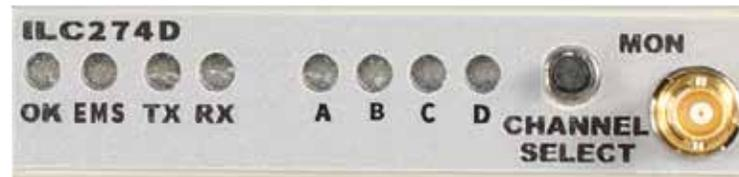

Figure 11. ILC274D Status LEDs and Monitor Connector
This section describes how to monitor the ILC274D operations using the front panel LEDs and the monitor (see Figure 11).
Table 7 describes the different states of the ILC274D status LEDs as shown in Figure 11.
1. Connect the monitor cable to the mini 75 Ohm SMB monitor jack (MON) located on the ILC274D front panel (see Figure 11).